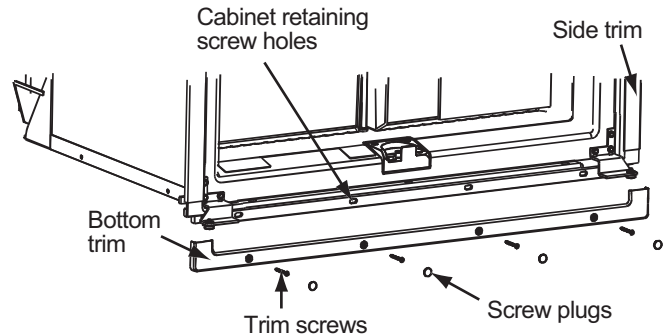

Figure 37. Bottom trim and cabinet retaining screws
3. Install all cabinet retaining screws. See Figures 37 and 38.